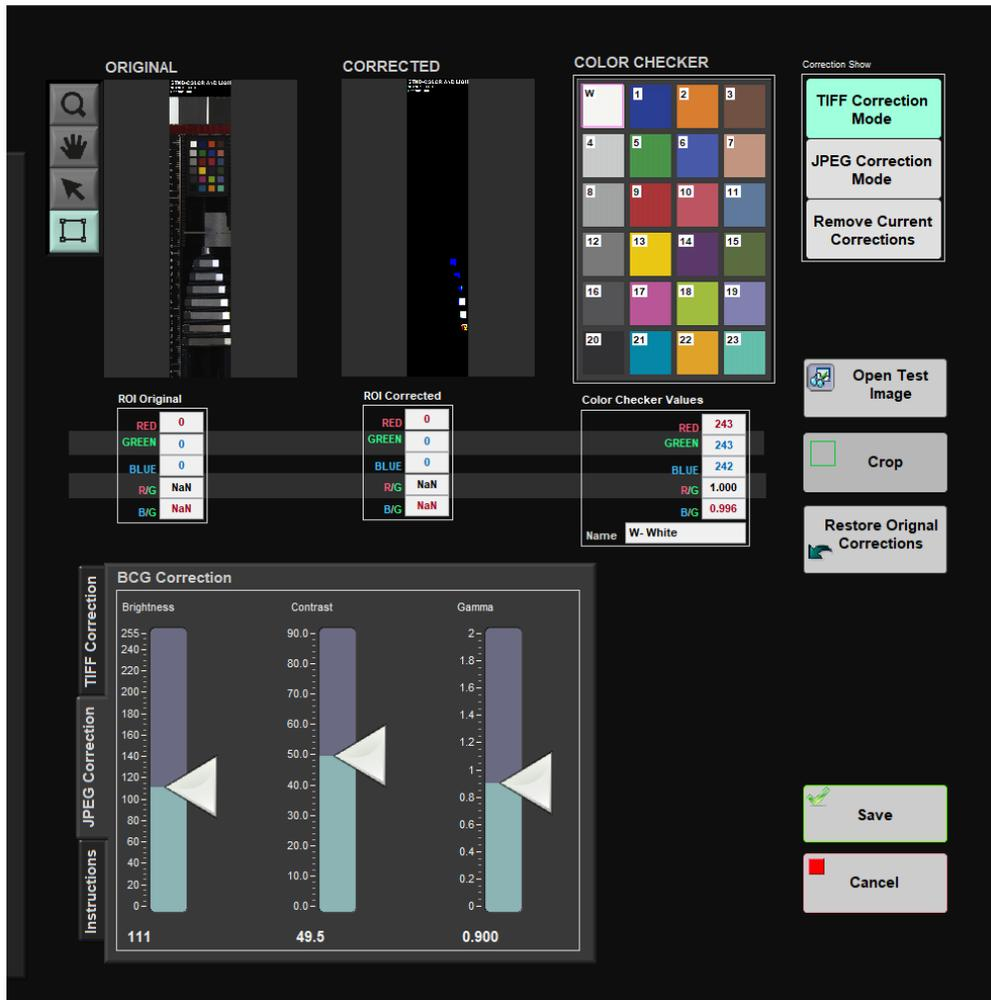

Figure 45. Test Image loaded into Original window
9. The image loads into main window in the **Original** section (Figure 45)